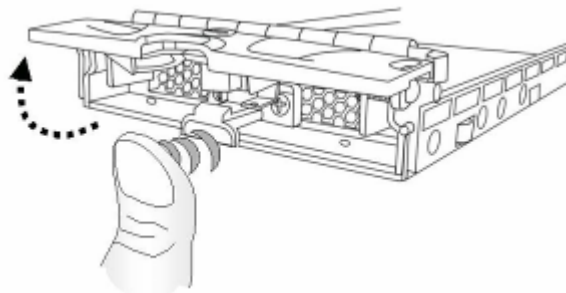

Figure 5-23: Opening the Front Flap
Step 3. Open the front flap by pushing the release button at the front of the drive tray. (See *Figure 5-23*) The front flap will automatically swings up into position.